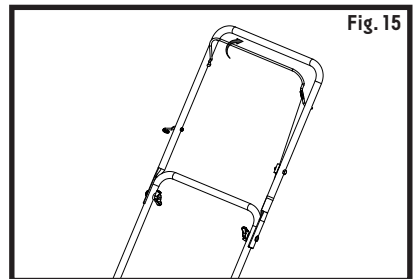

Fig. 15
2. Stand behind the mower. Pull the operator presence control bar toward upper handle with one hand and place the other hand on the starter handle (see Fig. 15).